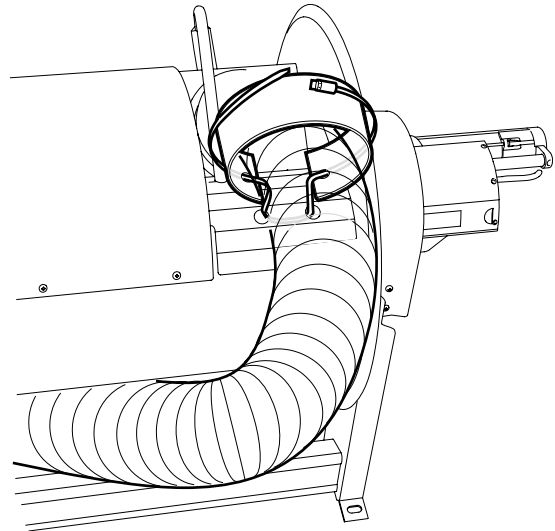

Fig. 11
7. Secure the hose using a rubber cloth and hose clamps according to Fig. 11.